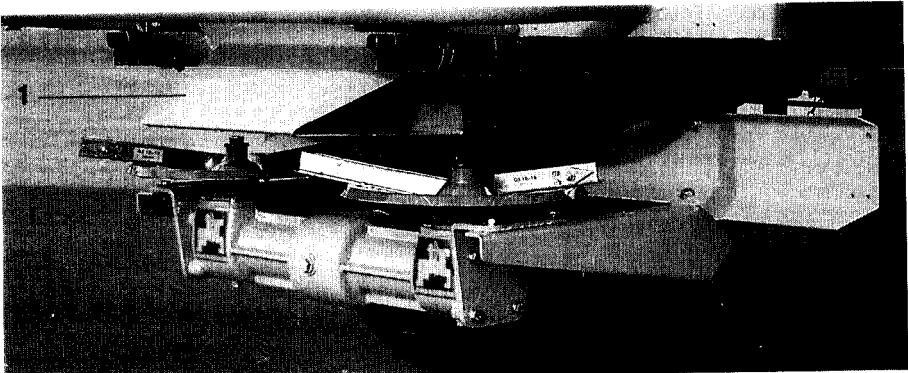
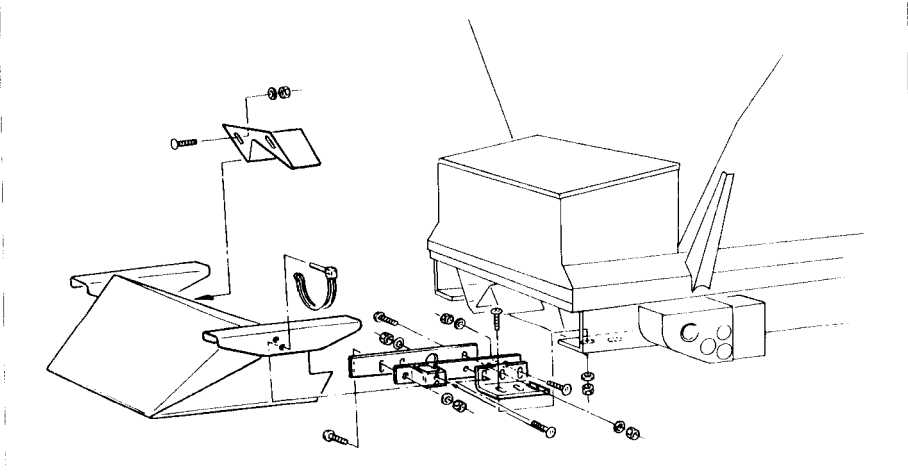

Fig. 7.16
Fig. 7.17
- Secure the funnel chute (fig. 7.16/1) according to fig. 7.17.